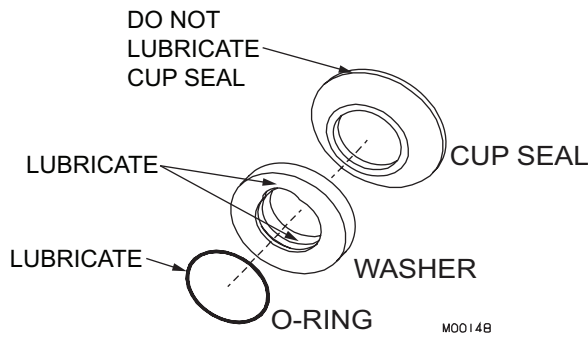

Figure 8-1 Shaft Seal Assembly
1. To assemble the shaft seal, install the cup seal and O-ring on the plastic washer (see figure 8-1). Apply a light amount of approved sanitary lubricant (such as Petrol-Gel) to the O-ring and the face of the plastic washer opposite the bell portion of the seal. Do not allow any lubricant to come into contact with the bell-shaped rubber portion of the seals.